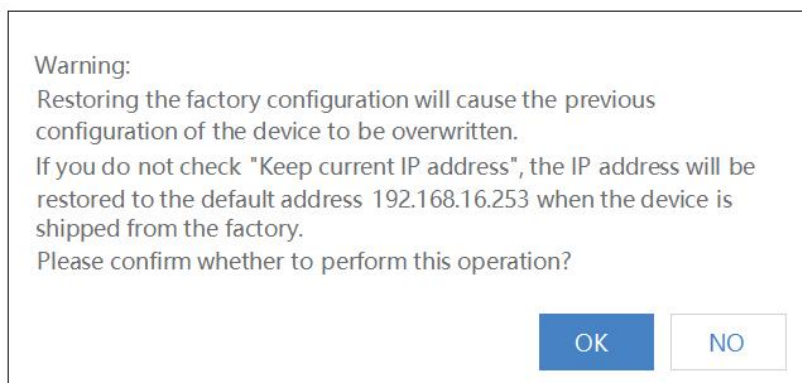

Figure 33 The warning message when the device is restored to factory configuration
- **Device Restart:** This function is used to restart the Cport series serial server via software. Before the serial server is completely restarted, the device does not operate and cannot forward any data packets. This restart differs from a hardware power-on reset; only the serial server system software is reset, similar to a "warm restart" in the Windows operating system. The main advantage of this function is that it allows the serial server to be restarted remotely. As long as the user has remote access to the serial server, it can be restarted from any location. Click the "Start" button, and a prompt box will appear, as shown in Figure 33. Click "OK" to go to the waiting page. After the progress bar completes, the serial server will finish restarting.